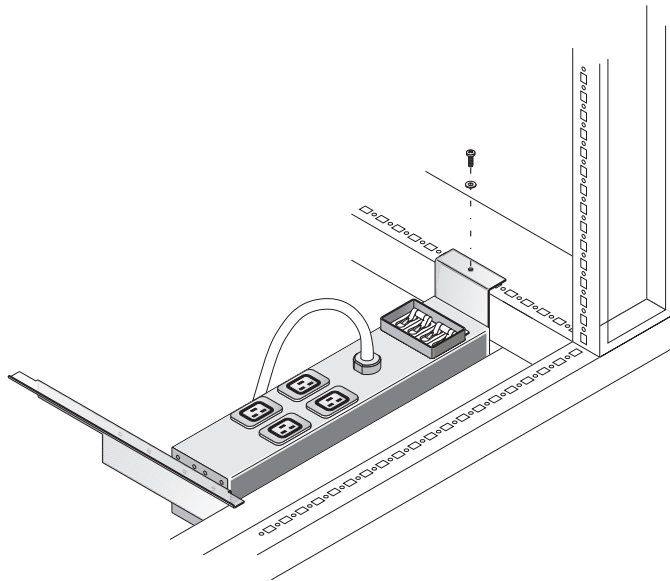

Figure 9. 2U PDU Installation in Bottom of Rack
2. Attach the mounting brackets to both ends of the PDU as illustrated in Figure 9.
3. Position the PDU as shown in Figure 9 and secure the unit with screws and washers. Cage nuts are not required when mounting the PDU in the bottom of the rack; the PDU's mounting brackets are screwed directly to the bottom mounting supports using the screws provided.